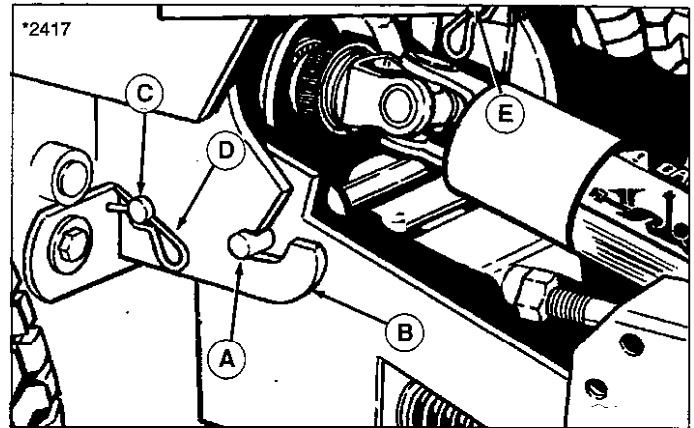

**Figure 4. Installing Spout**
1. Install nylon ring (A, figure 4) over snowthrower bottom discharge opening.
2. Install chute underneath left rear retaining bracket (B, factory installed). Make sure that chute ring gear teeth mesh with spiral rotator spring. The PTO retaining hook (F) should be pre-installed in the outside hole of the left rear bracket, if not, install it using 1/4-20" nut.
3. Install three other chute retaining brackets (B) and secure with 1/4-20 x 3/4" capscrews (C), lockwashers (D) and 1/4-20 nuts (E).